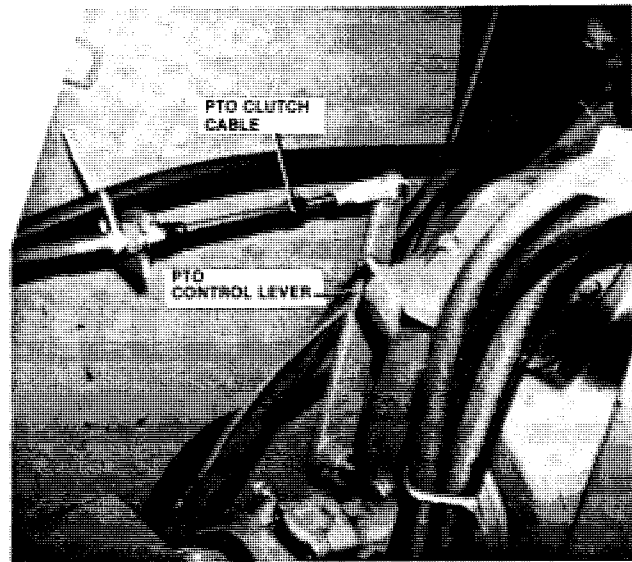

FIGURE 2-9: PTO Clutch Cable Disconnect
29. Disconnect PTO cable from its control lever (Figure 2-9).